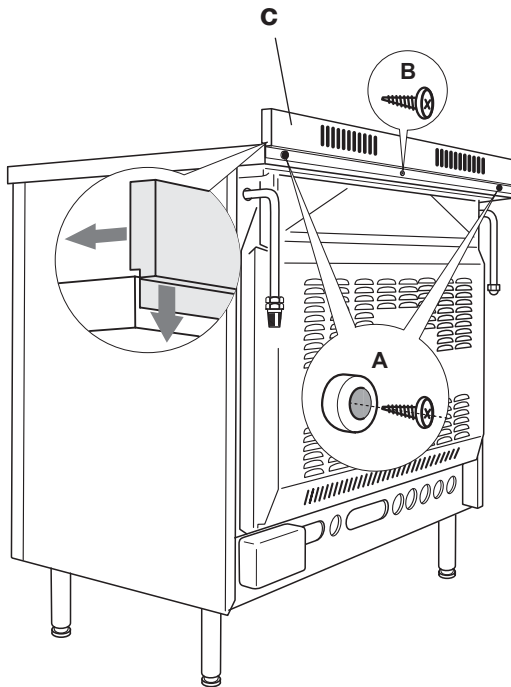

Fig. 7.2
Before installing the cooker, assemble the backguard "C" (fig. 7.2).
- Assemble the backguard as shown in figure 7.2 and fix it by screwing the central screw "B" and the spacers "A".